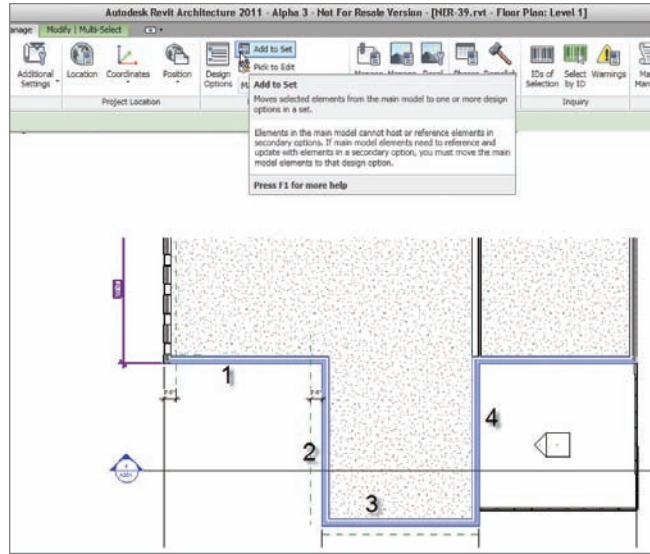

FIGURE 21.26 Adding the walls to the option set
16. Select the walls as shown in Figure 21.26, and click the Add To Set button in the Design Options panel on the Manage tab. (You will have to click the Manage tab.)